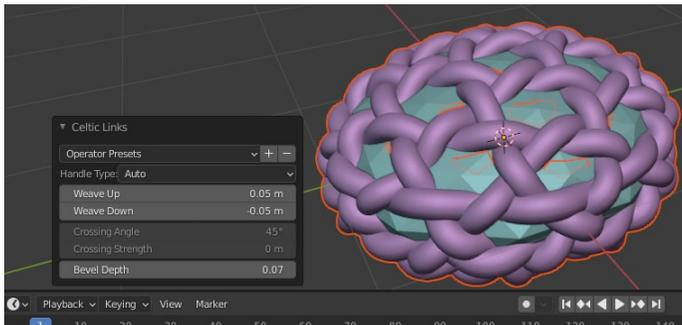

Figure 6-5 Celtic Knot wrapped around an icosphere
6. In the Adjust Last Operation panel change Weave Up to **0.05**, Weave Down to **-0.05** and Bevel Depth to **0.07**. The result is shown in Figure 6-5. Select the icosphere and delete it.